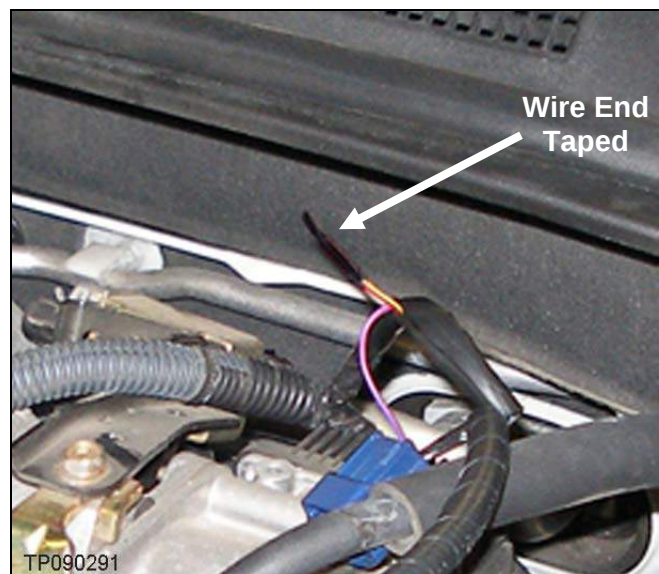

Figure 2
- d. Cover the end of the wire by taping over it with electrical tape (see Figure 2).